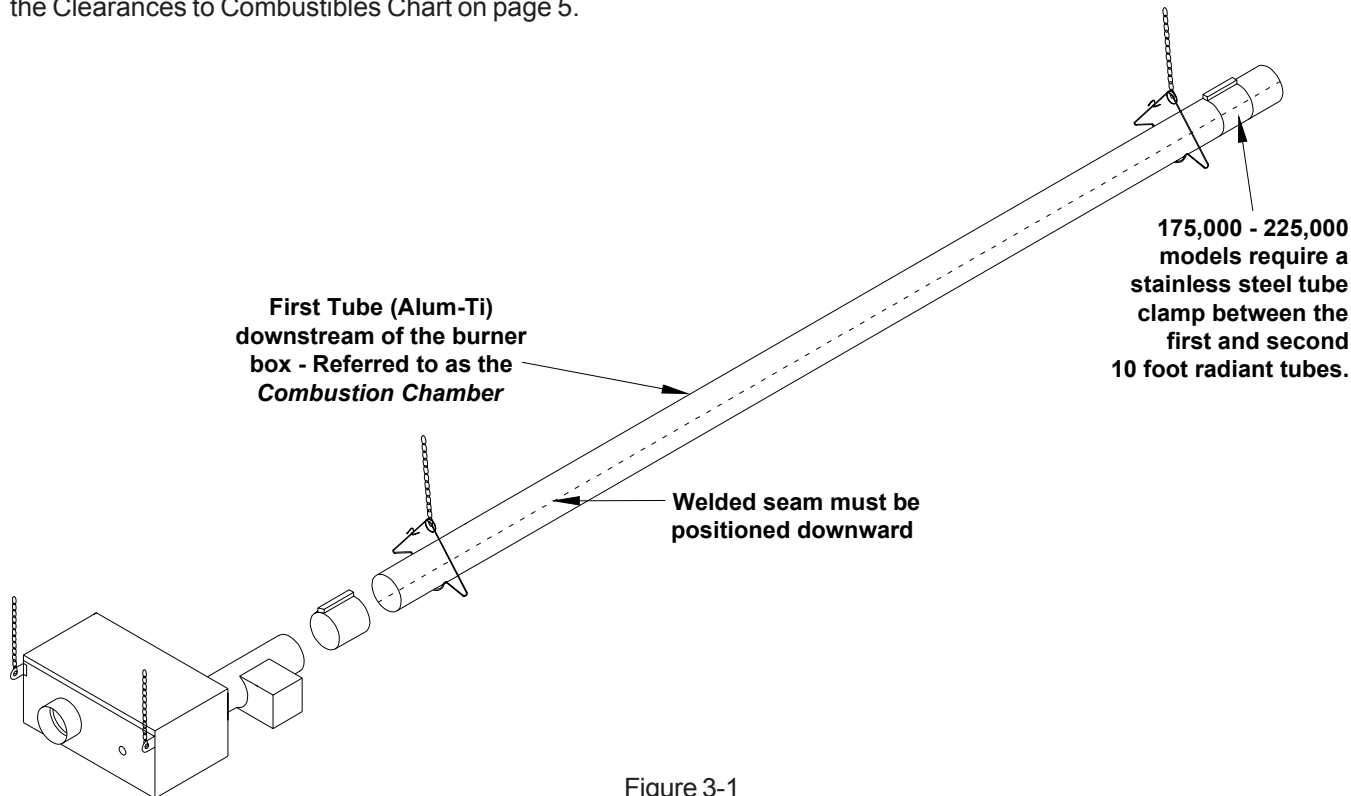

Figure 3-1
- 6) Each system is supplied with the necessary wire hangers for suspending the burner, radiant tubing and reflectors (see Figure 3-1).
- 9) The first 10 ft. of tube downstream from a burner **must** be titanium alloy aluminized steel tube (Alumi-Ti). Identify this tube and make sure it is installed with welded seam down (see Figure 3-1).